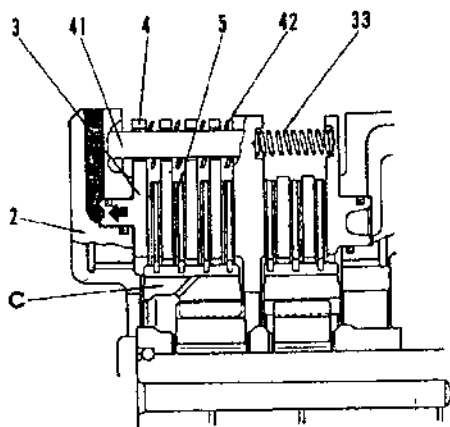

Fig. 2-17 Clutch disengagement
Clutch disengagement is realized when pressurized oil cut off and recoil spring(33) pushes piston(3) back to original place. (See Fig. 2-17). The disc spring(42) acts for speeding the piston(3) back to improve disengagement of disks and plates.